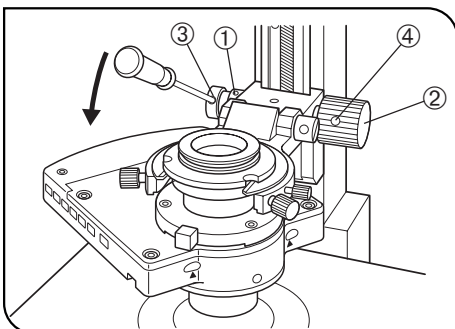

Fig. 28
(Fig. 28)
1. Loosen the two knob clamping screws ① on the left adjustment knob using the Allen screwdriver.
When the handle ② has been moved to the left, restore it in the position as shown in Fig. 28.
2. Insert the Allen screwdriver into the hole ③ on the condenser height adjustment knob ② and, while holding the knob, turn the screwdriver in the direction of the arrow to increase the rotation tension of the knob or in the opposite direction to decrease the tension.
3. After adjustment, tighten the two clamping screws ① securely.